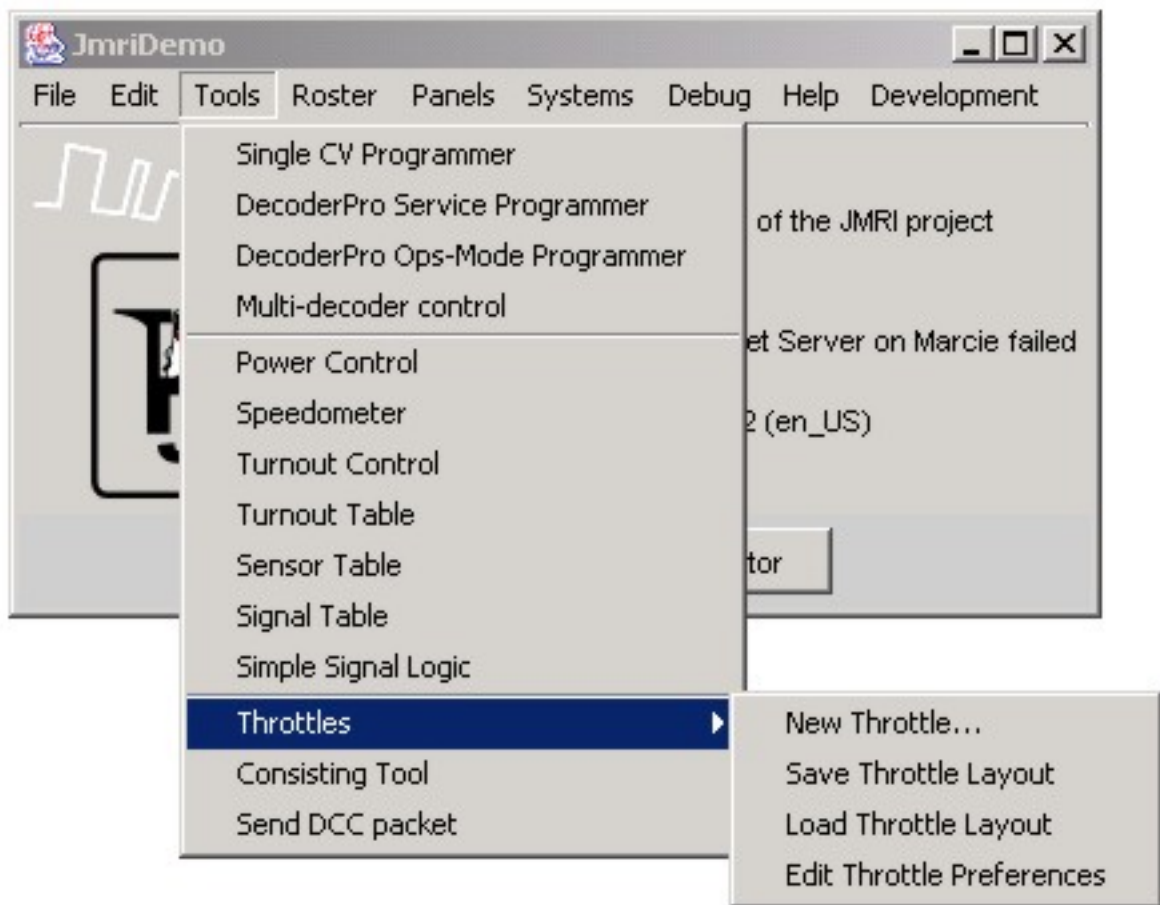

Figure 1-2: JMRI Throttles sub-menu structure
- This is the Throttles Menu (refer to figure 1-2).
The Throttles sub-menu (as shown in figure 1-2 below) contains the following menu options, which are defined as: